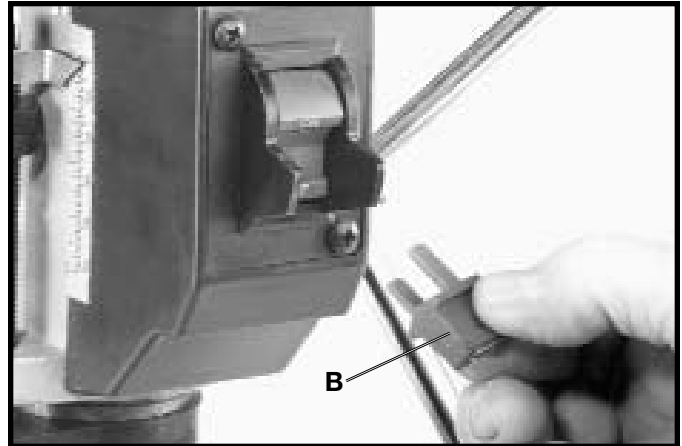

Fig. 19
When the tool is not in use, the switch should be locked in the **“OFF”** position to prevent unauthorized use of the tool. To lock the switch in the **“OFF”** position, grasp the switch toggle (B) and pull it out of the switch, as shown in Fig. 19. With the switch toggle (B) removed, the switch will not operate. However, should the switch toggle be removed while the drill press is operating, the switch can be turned **“OFF”** once, but cannot be restarted without inserting the switch toggle (B).